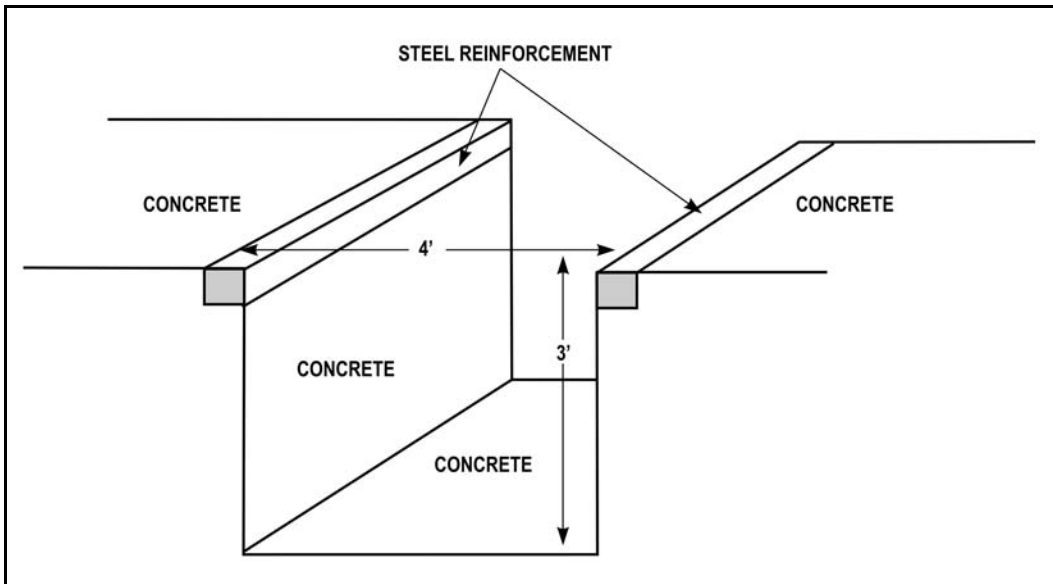

Figure C-5. Trench (example).
- Minimum of one 18-inch high, 10-foot wide trench. Must include a concrete pad not less than 15 feet in front of and after the step-up. Trench should have steel reinforced edges (Figure C-5).